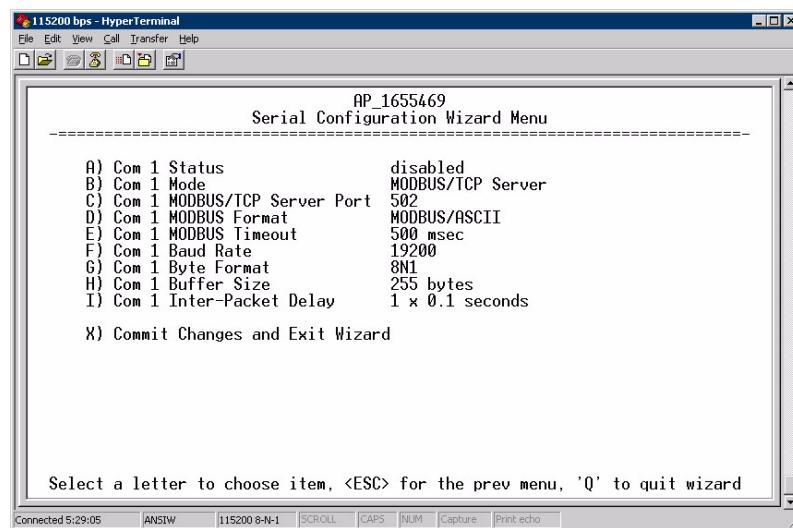

Figure 3-61. Serial Configuration Summary Screen
8. Review all settings on the summary screen shown in **Figure 3-61**. If all settings are correct, press **X** to confirm and exit the wizard. If not, select the letter of the item(s) you wish to change.